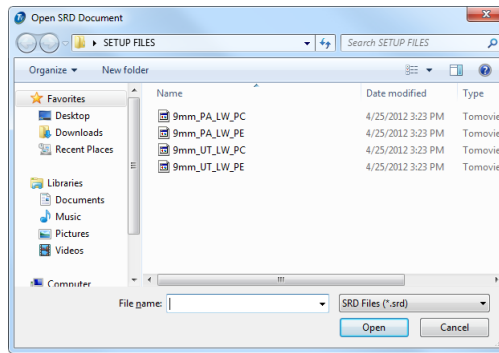

Figure 4-2 The Open SRD Document dialog box
2. When the Open dialog box appears, select the .srd file to load and click **Open**. (See Figure 4-2 on page 229.)